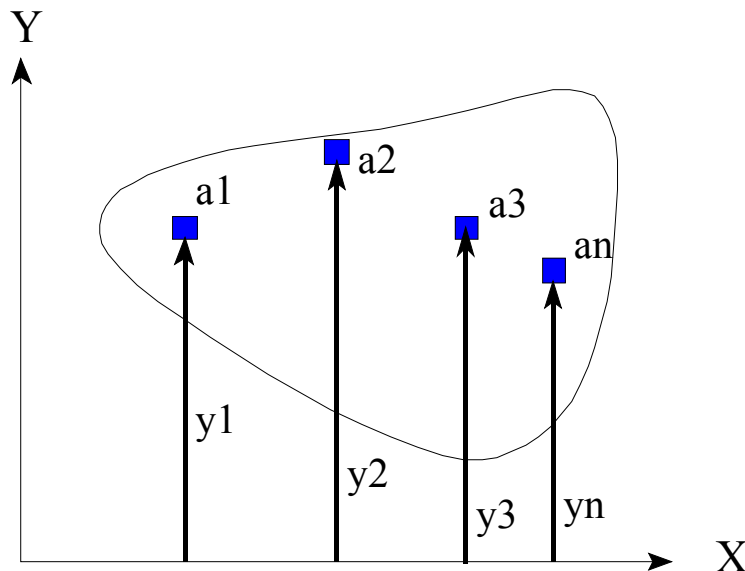

Figure 2-10 – Showing the Calculation of a Centroid of an Irregular Plane Area
Both centroids and centers of mass can be found by doing weighted averages as discussed in chapter one. For example, Figure 2.10 is a two dimensional uniform body with an irregular shape. The “Y” location of the centroid of this shape can be found by breaking the area up into little pieces and finding the average “Y” distance to all the area. This can be repeated for the “X” location of the centroid. This will result in the coordinates of the centroid of the area shown with respect to the arbitrary coordinate system chosen.
1. “Weight” each differential area element by its distance from some reference (i.e.,  $y_1a_1, y_2a_2, \dots, y_na_n$ ). In Figure 2.10, the reference is the x-axis.